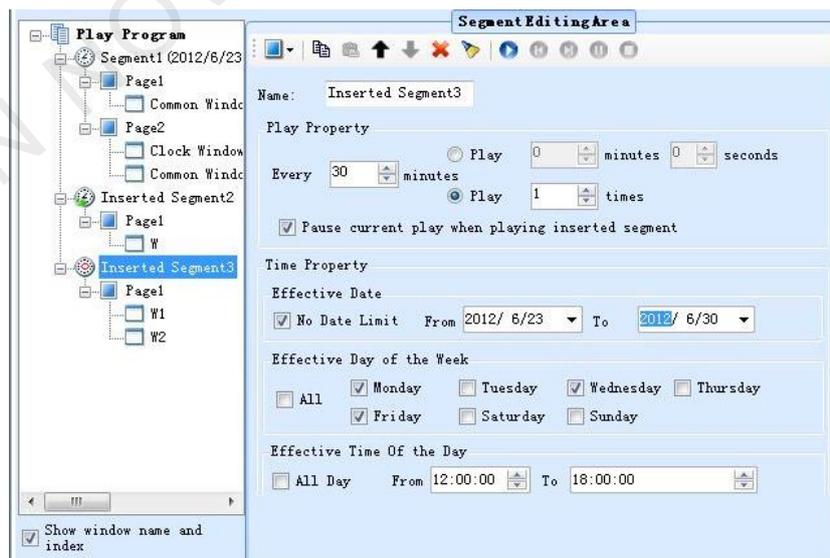

Fig. 10-10 Cycle inserted segment **Inserted Segment3**
- If B is at the back of A in the play program, then B has the priority to be played on time conflict. The dispatching results will be shown as Fig.10-10 (In June 24, 2012).